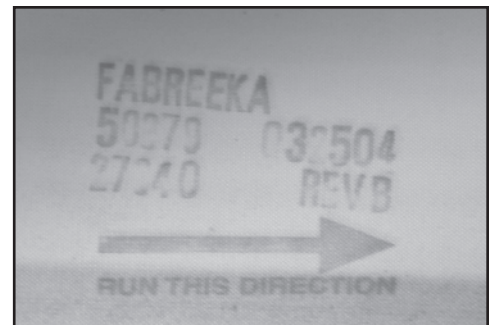

Figure 5.1: Belt direction arrow
5.1 Slip the new belt over the deck. Make sure the arrow on the inside surface of the walk belt points in the proper direction of belt travel (see Figure 5.1) toward the rear of the machine.